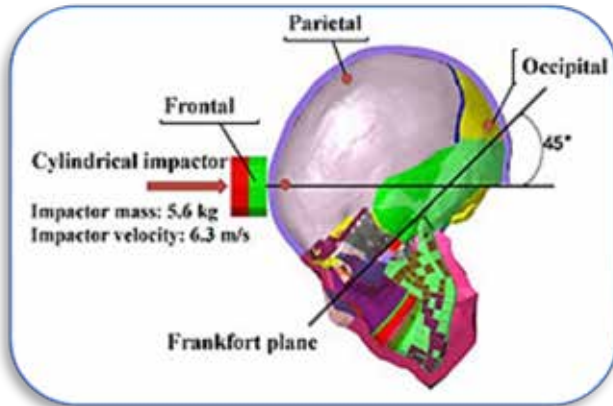

Figure 4. Finite element simulation setup for skull strike based on Nahum et al.'s cadaver experiment
2.3. Model Validation - The FEM validation was conducted under conditions consistent with Nahum et al.'s [11] cadaver experiment (Expt. 37). A 5.6 kg impactor struck the skull at 6.3 m/s at a 45° angle to the Frankfort plane, targeting the frontal region. The skull model remained stationary prior to strike and was configured in an unconstrained free state. The three intracranial monitoring points (frontal, parietal, occipital), measured ICP-time curves and frontal impact force-time curves for experimental-simulation comparison are shown in Figure 4.